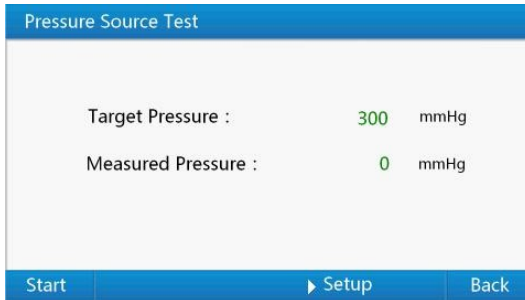

Figure 14 Pressure source test interface
- 1) Use up or down key in "**Pressure Test Menu**" to select "**Pressure Source**", then press "**Enter Key**" to "**Pressure Source Test**" interface shown as Figure 14.Pressing "**Return Key**" in this interface can get back to "**Pressure Test Menu**".As a shortcut, you can use the number key "3" to "**Pressure Gauge Test**" interface firstly, then press "**Enter Key**" to the "**Pressure Source Test**" interface.